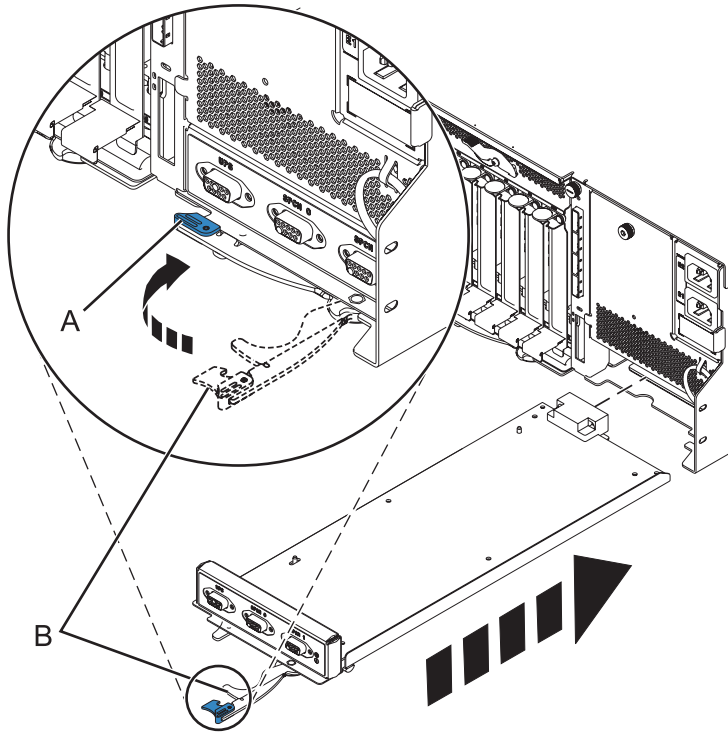

Figure 60. Replacing the enclosure management controller
- Carefully slide the enclosure management controller into the system and close the latch (A) as shown in Figure 60.